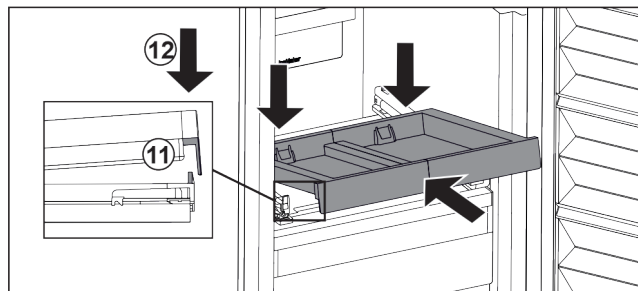

Fig. 29
- Slide in at an angle. Make sure that the stop is behind the lug on both sides. Fig. 29 (11)
- Lower the pull-out board at the front. Fig. 29 (12)